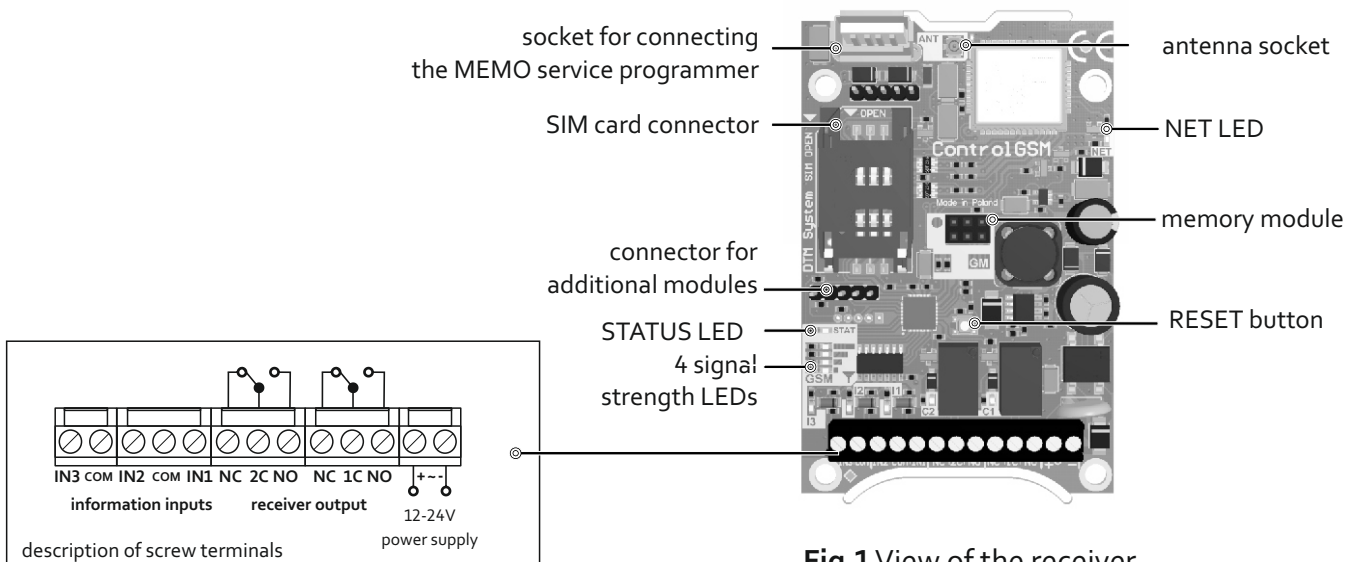
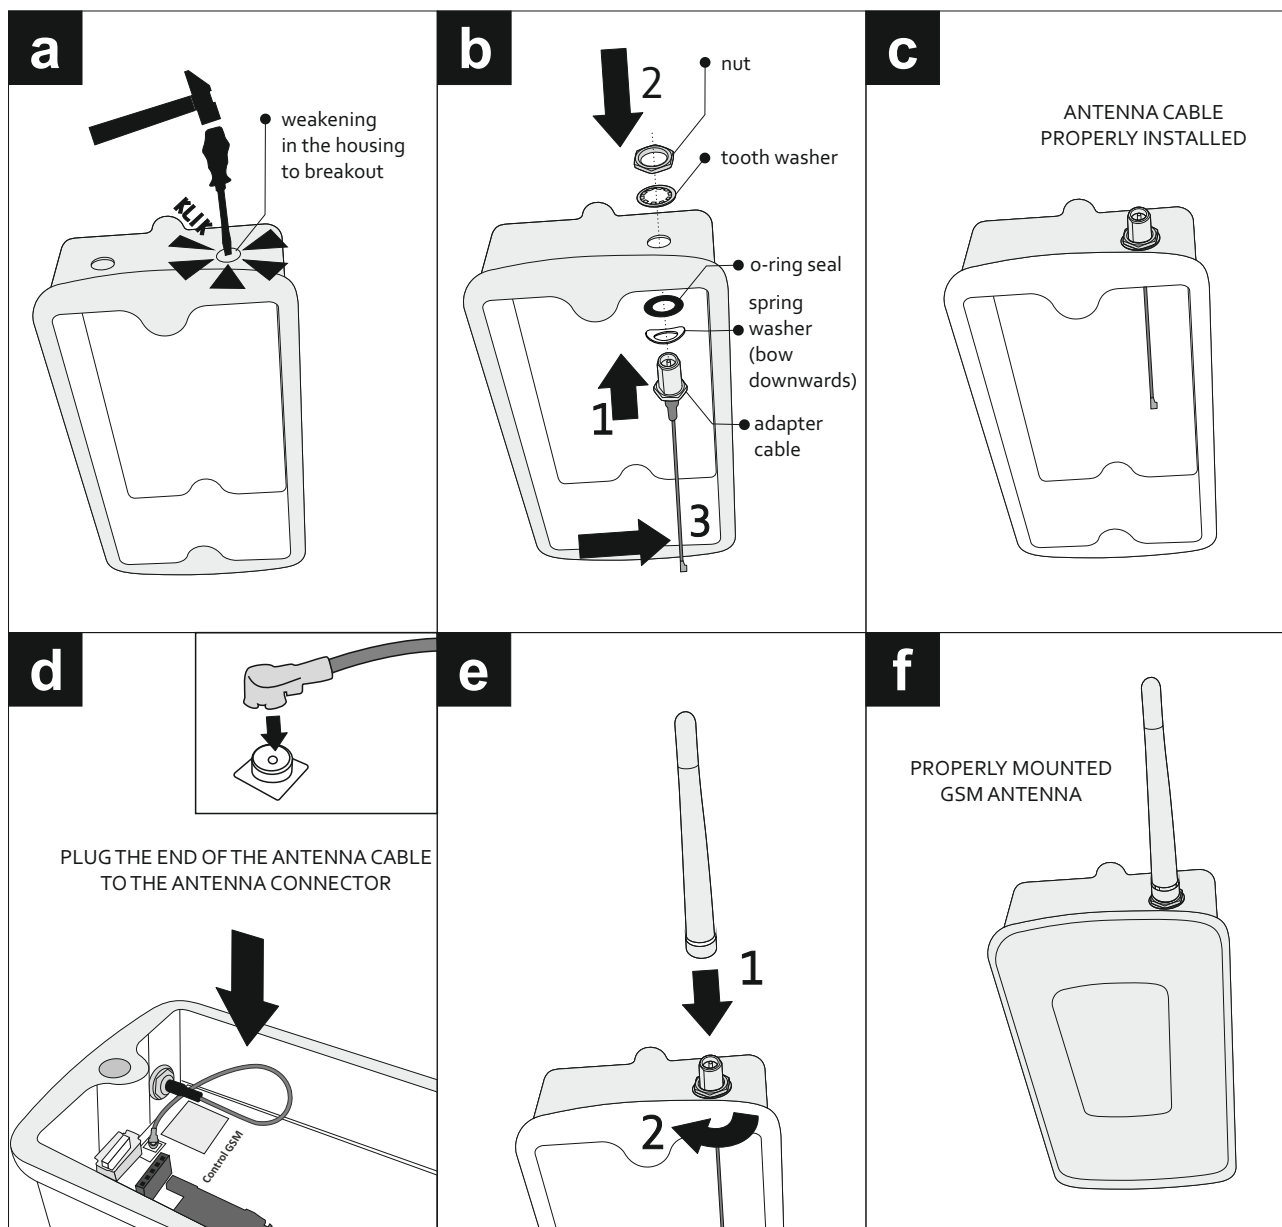

Fig.1 View of the receiver with the description of the pins
Fig.2 Installation of the GSM antenna in the receiver.
The receiver consists of a splash-proof surface-mounted housing with a screw-in GSM antenna and a main board. The main board (Fig. 1) has an executive system based on two relays and screw connections for connecting the supply voltage, controlled devices and sensor outputs. There is a memory on the board on the socket. Placing the module on the socket makes it easier to transfer the memory to another receiver, for example in the event of a device failure. The memory contains receiver configuration data and a database of saved user numbers.
The receiver is delivered in a dedicated IP-54 surface-mounted housing intended for outdoor installation. Make sure that the device is installed in places where GSM coverage is reliable. Communication of the receiver with the GSM network is signaled by the blinking of the NET LED. The GSM network coverage is indicated by four signal strength LEDs on the receiver's board (Fig. 1). Operation at the edge of the range may have a negative impact on the correct operation of the device. The receiver is factory-equipped with a GSM antenna. In case of poor coverage of the GSM network, an external antenna should be used instead of the one supplied with the receiver. The receiver can also be mounted directly in the housing of another device.
Before mounting the receiver, mount the GSM antenna (Fig. 2).
- Step 8: Plug the end of the adapter cable into the antenna socket (Fig. 2-d) on the receiver board (Fig. 1). The antenna plug has the same potential as the neighboring elements, it is allowed to touch them.